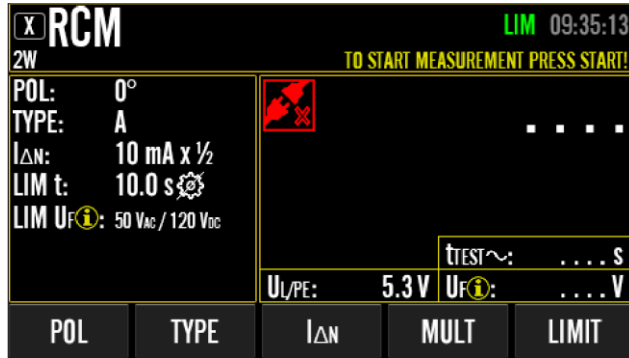

Figure 51: Idle screen in RCM measurement with extended range of menu keys (after pressing “EDIT” menu key), example
- 5) Press “EDIT” menu key to get into idle screen with extended menu keys, see the figure 51 above.
- 6) Select/adjust all test parameters according to available menu keys shown on figure 51 above.